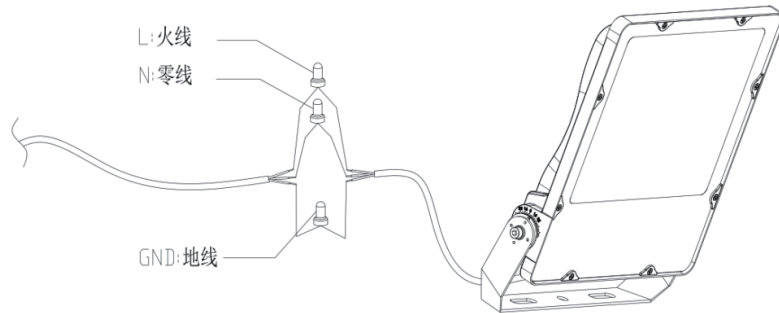

Figure 1. LED floodlight wiring
- Connect the wires in the lamp pole to the input wires of the LED floodlight, and make sure that “L” , “N” and “G ND ” correspond to each other. See Figure 1.